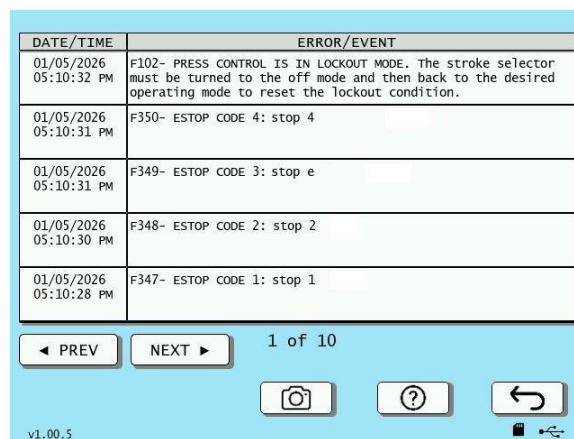

Figure 5-15. Event Log Screen
2. Press Event Log. The Event Log screen appears, Figure 5-15, showing the most recent event first. Press NEXT or PREV to view additional event log items. Press the back button to return to the Main Run screen.